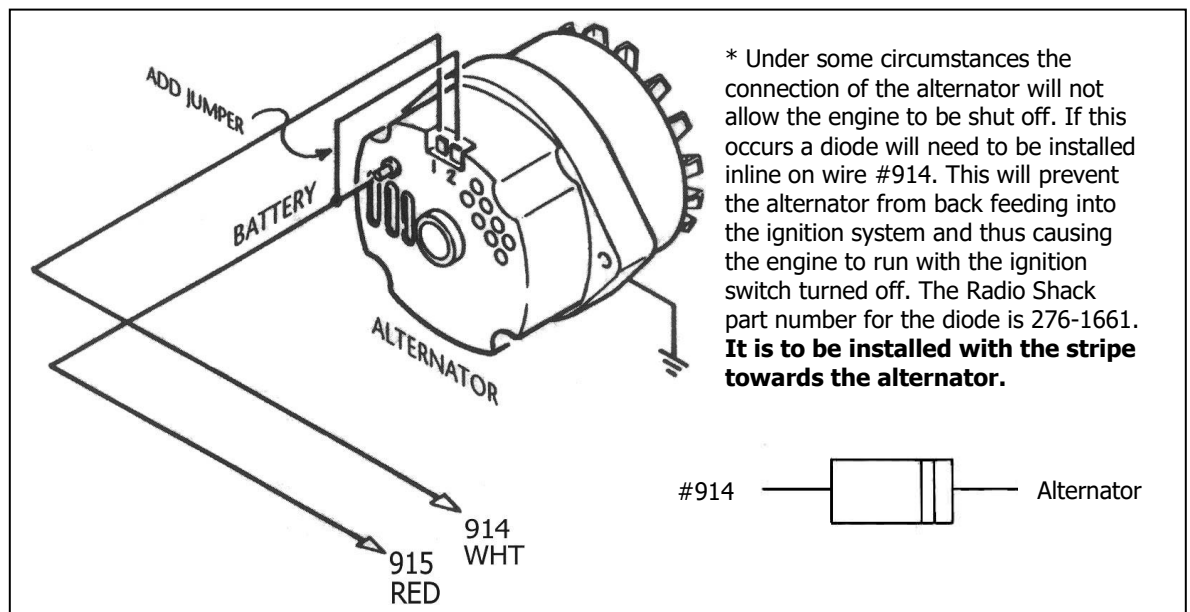

Figure 8.4 GM Alternator - Internal Regulator
8.4 Late GM Alternator - Internal Regulator. See Figure 8.4.
**** If you do not have a One Wire alternator refer to Figure 8.4**